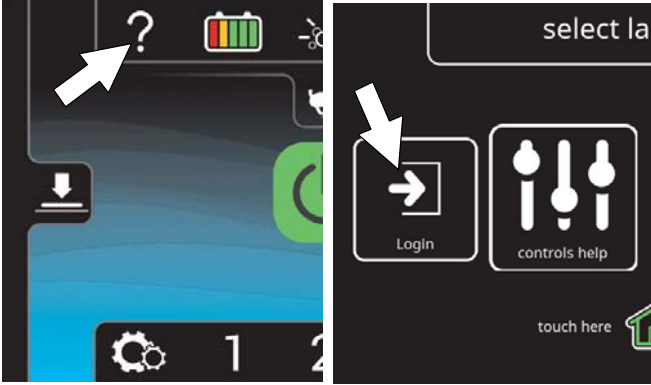

FIG. 175
2. Press the help button and log into the machine as supervisor mode (Figure 175). See *Entering the Supervisor Mode*.